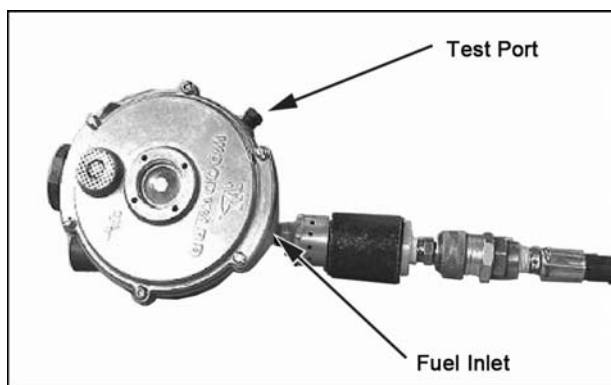

Figure 31. Primary Stage Test Connection
1. Remove the primary test port plug from the side of the regulator and install the 1/16" NPT hose barb fitting (Figure 31).
2. Connect a compressed air line (shop air ~100 psi) to the liquid propane fuel inlet of the N-2001 regulator (Figure 31).